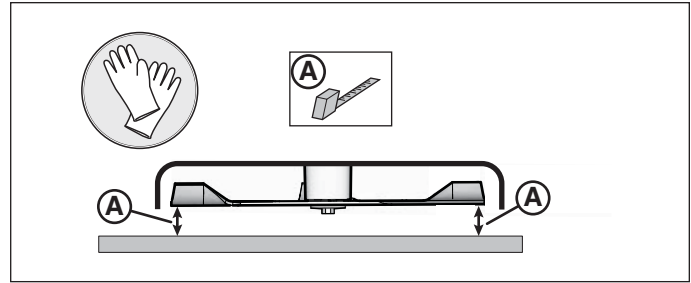

Figure 20. Checking The Blade Height Measurement
10. **For your safety, DO NOT handle mower blades with bare hands.** Position the outside mower blades so that they face front-to-back (Figure 20).